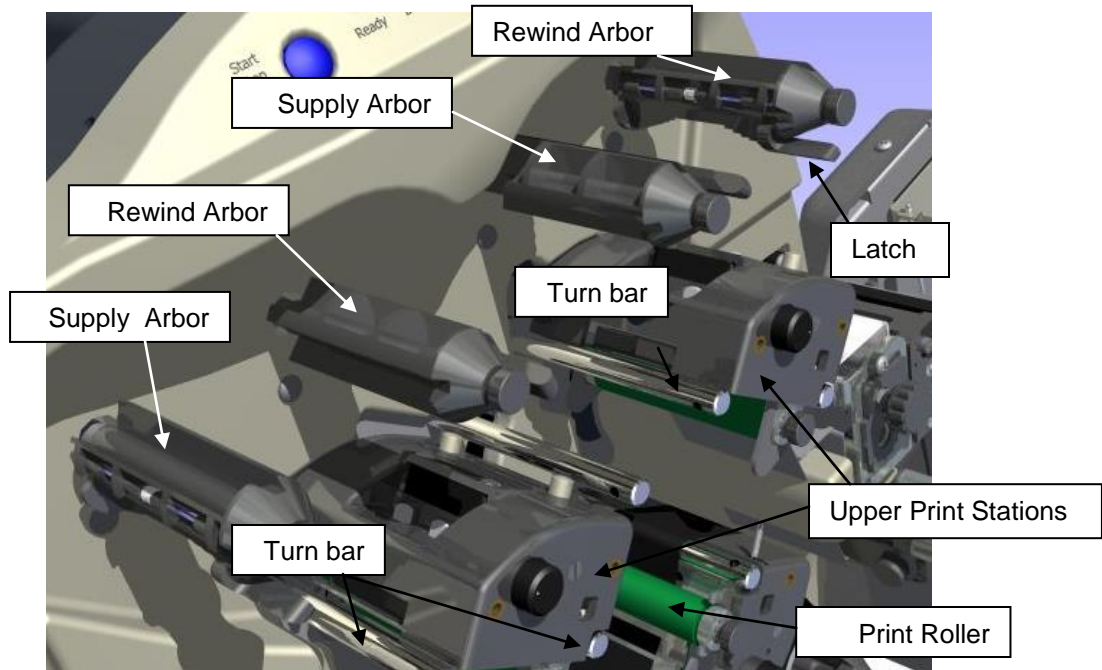

Figure 7: Upper Ink Supply and Print Stations – Unloaded (Gen 2 shown)
- b. As you slide the core onto the arbor, you will hear a clicking noise as the latch ratchets onto the core. When the core is centered on the arbor, it will stop. See Figure 7.